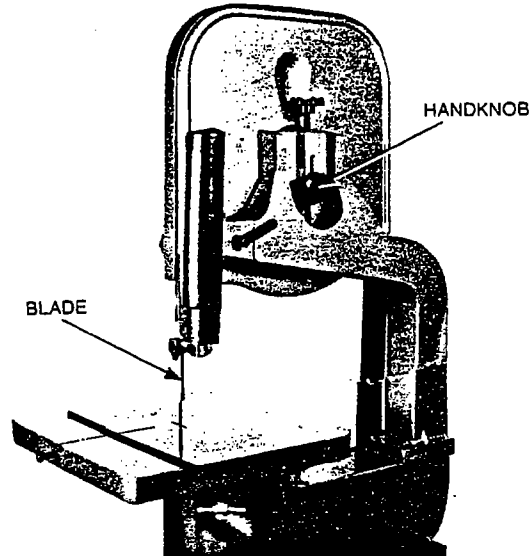

FIGURE 17
2. If blade slides toward front edge, slightly turn tracking handknob (Figure 17) clockwise. This tilts top of wheel toward back of machine and draws blade toward center of tire.